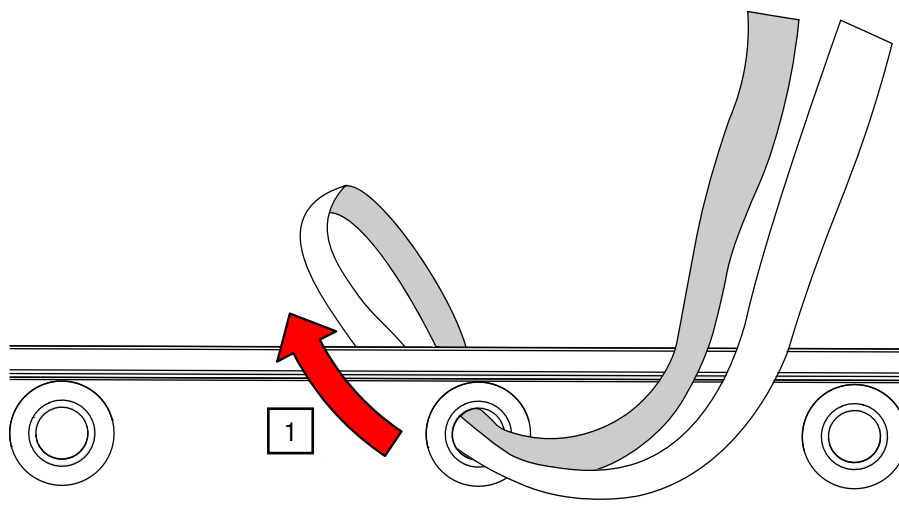

Fig. 89: Tie line – Pull through curtain eyelet
1. Fold the tie line in half and pull it through the curtain eyelet (see Fig. 89).